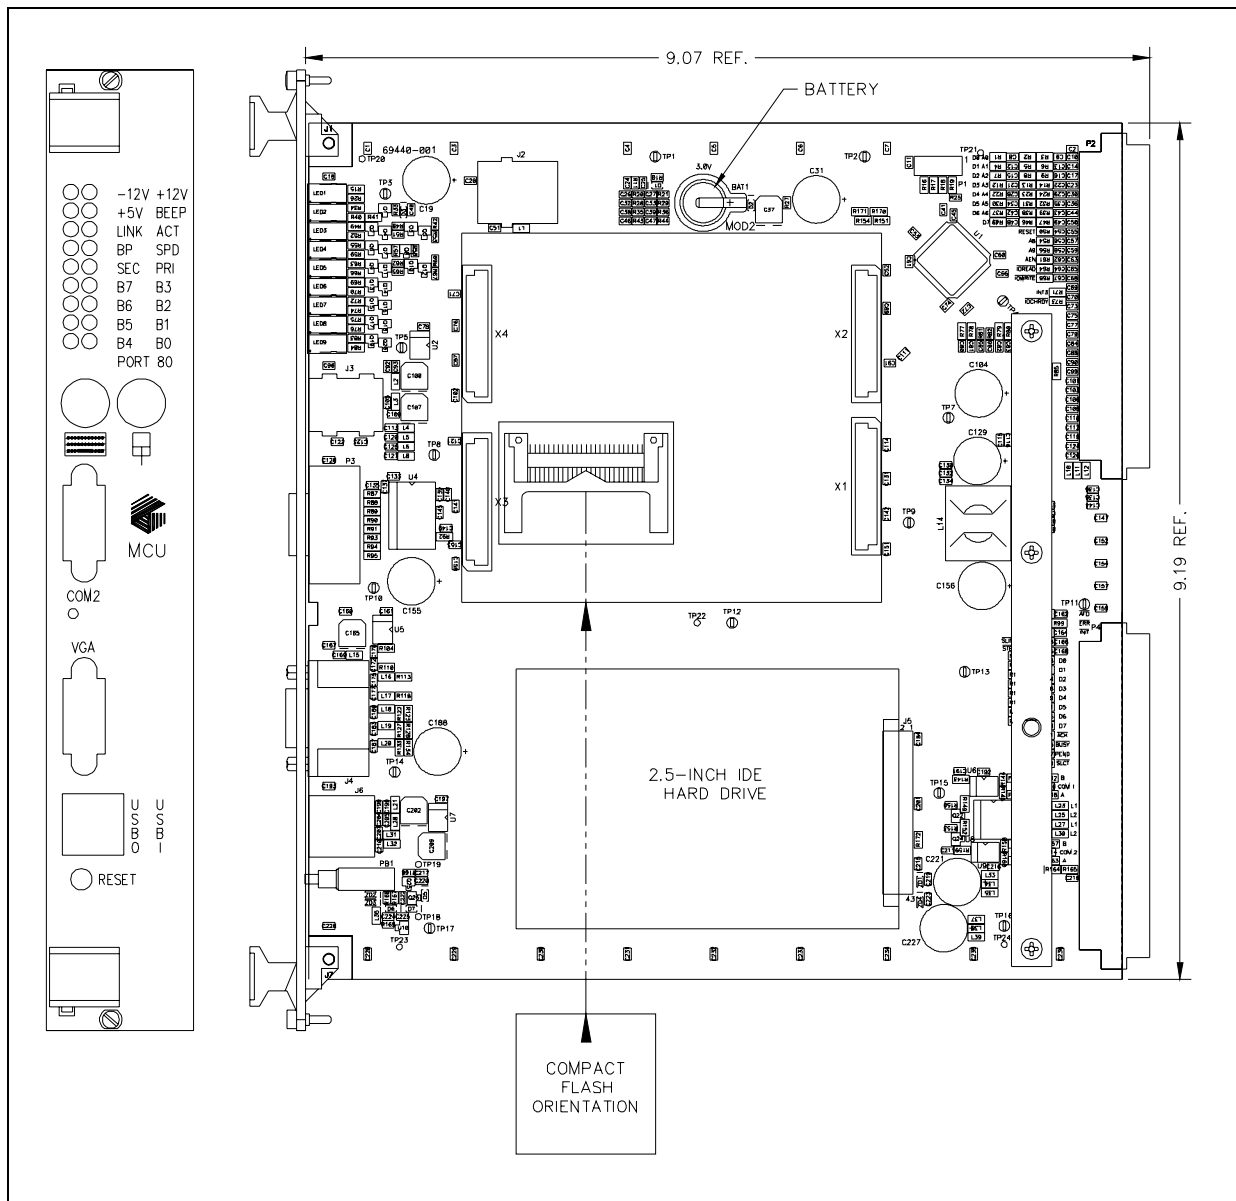

Figure 1. Model 69440-001 PCBA Master Control Unit
Refer to Figure 1 for component location and installation details.
1. Lift the retainer clip away from battery and pry the battery out of the holder. See Figure 1 for location.